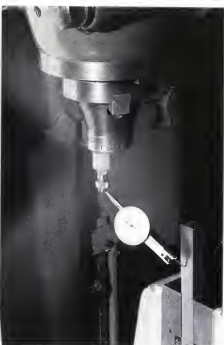

Figure 5a
4. It can also be used to line up work in both vertical planes. Refer to **figures 5a & 5b**. Move table up and down, or the